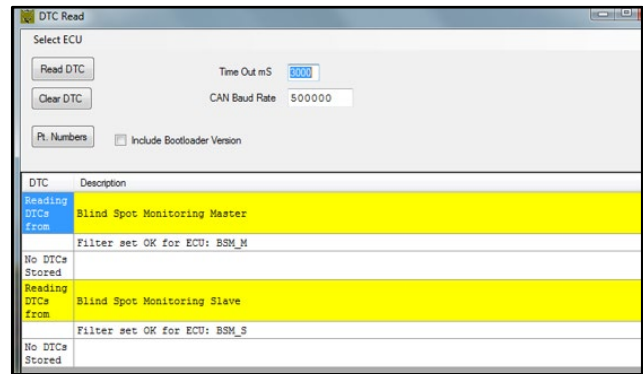

Figure 8
- 12. Check to make sure there are no diagnostic trouble codes (DTCs) stored for the BSM\_M and BSM\_S modules (refer to Figure 8).